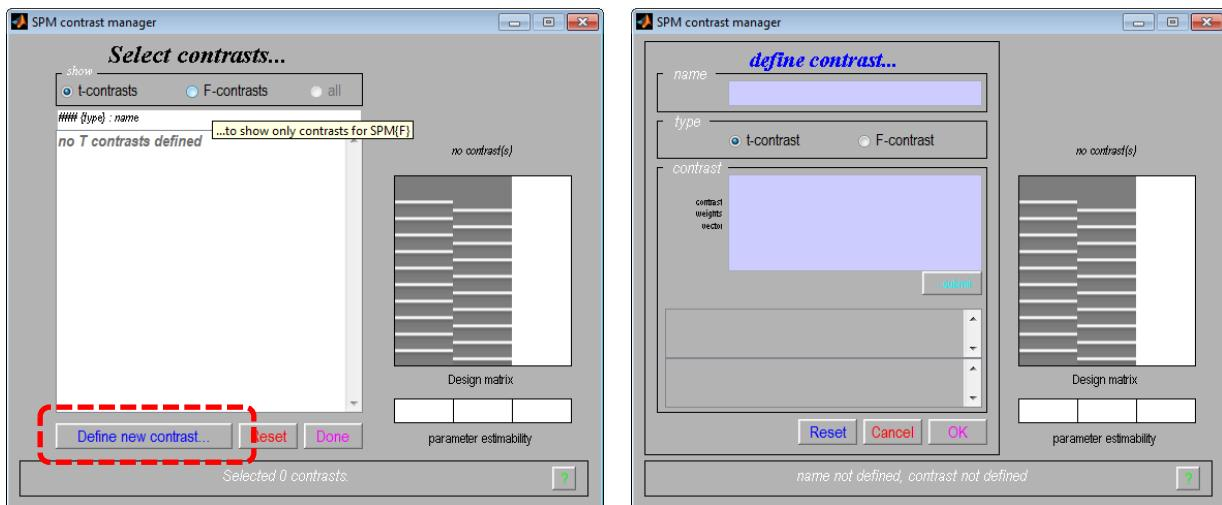

Figure 6-41. The *SPM contrast manager* GUI, before (left) and after (right) you click on the *Define new contrast...* button (red oval).
1. Select ‘Contrast Image’ from the drop-down menu. This will disable the ‘Beta:’ field and enable the *Specify SPM Contrast* button. Click on ‘Specify SPM Contrast’ to launch the *SPM contrast manager* GUI (Figure 6-41).
2. Click on the *Define new contrast...* button in the *SPM contrast manager* window. This will change the appearance of the *SPM contrast manager* GUI as indicated in Figure 6-41. In the ‘name’ field,
2. Click on the *Specify SPM Contrast* button to launch the *SPM contrast manager* GUI (Figure 6-41).
3. Click on the *Define new contrast...* button in the *SPM contrast manager* window. This will change the appearance of the GUI as indicated in Figure 6-41. In the '*name*' field, enter a name for the contrast you are going to define. In the '*type*' field, select the 'F-contrast' radio button.